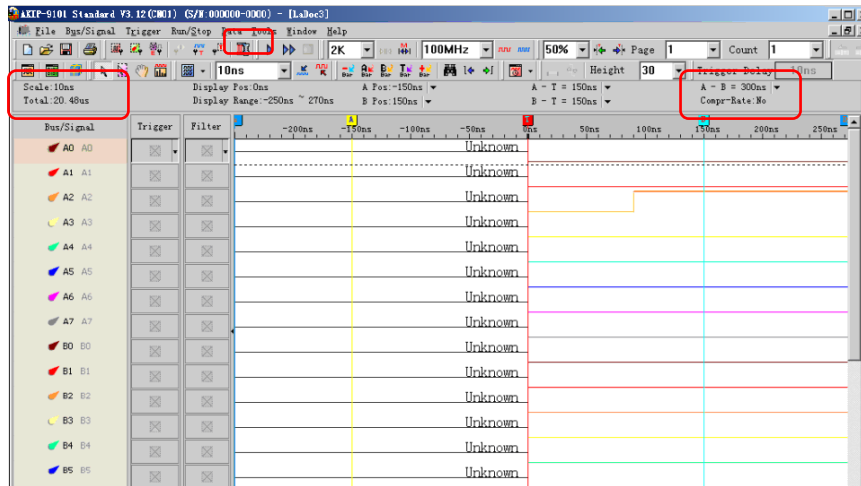

Fig 4-138 – Before and After Compression
Step4. Click **Run**, and then activate the signal from the tested circuit to acquire the result on the waveform display area. Fig 4-138 shows the result before and after compression has been applied.